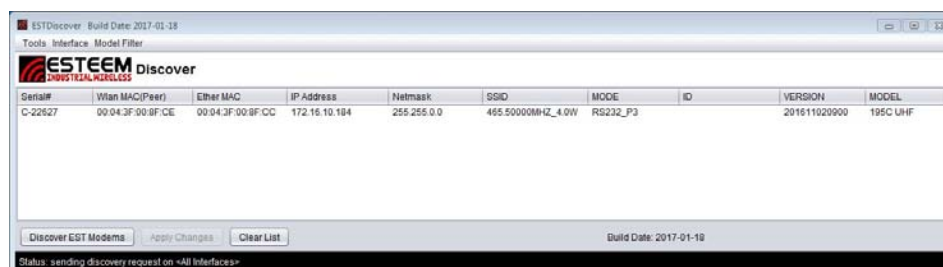

Figure 3: Discovery Found Radio
4. The ESTeem 195M/H/C will be displayed (Figure 3). If the ESTeem is not on the same IP subnet as the computer, double click on the IP, Netmask or Gateway and make the necessary changes. Press the *Apply Changes* button when complete.